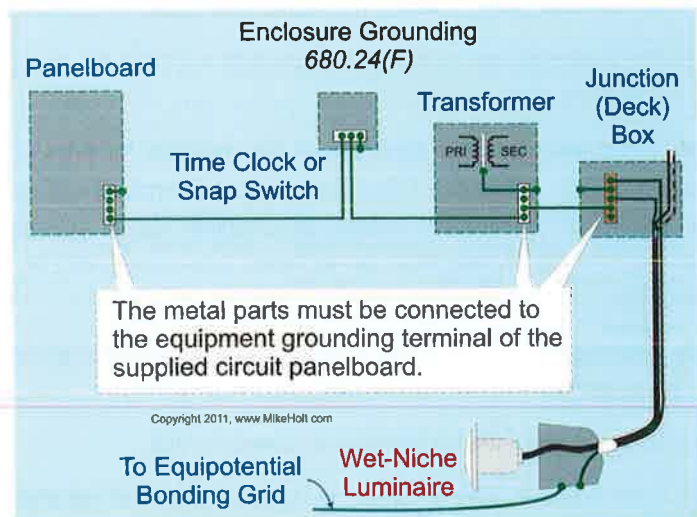

Figure 680-27
(F) Grounding. The metal parts and/or the circuit equipment grounding conductor terminals of a junction box, transformer enclosure, or other enclosure in the supply circuit to a wet-niche luminaire must be connected to the equipment grounding terminal of the supplied circuit panelboard. **Figure 680-27**